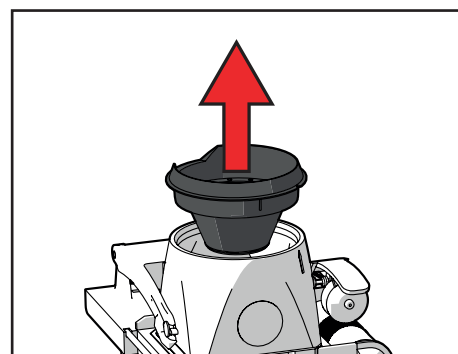

Figure 43. Remove funnel
8. Remove the funnel from the mixing bowl (see Figure 43).